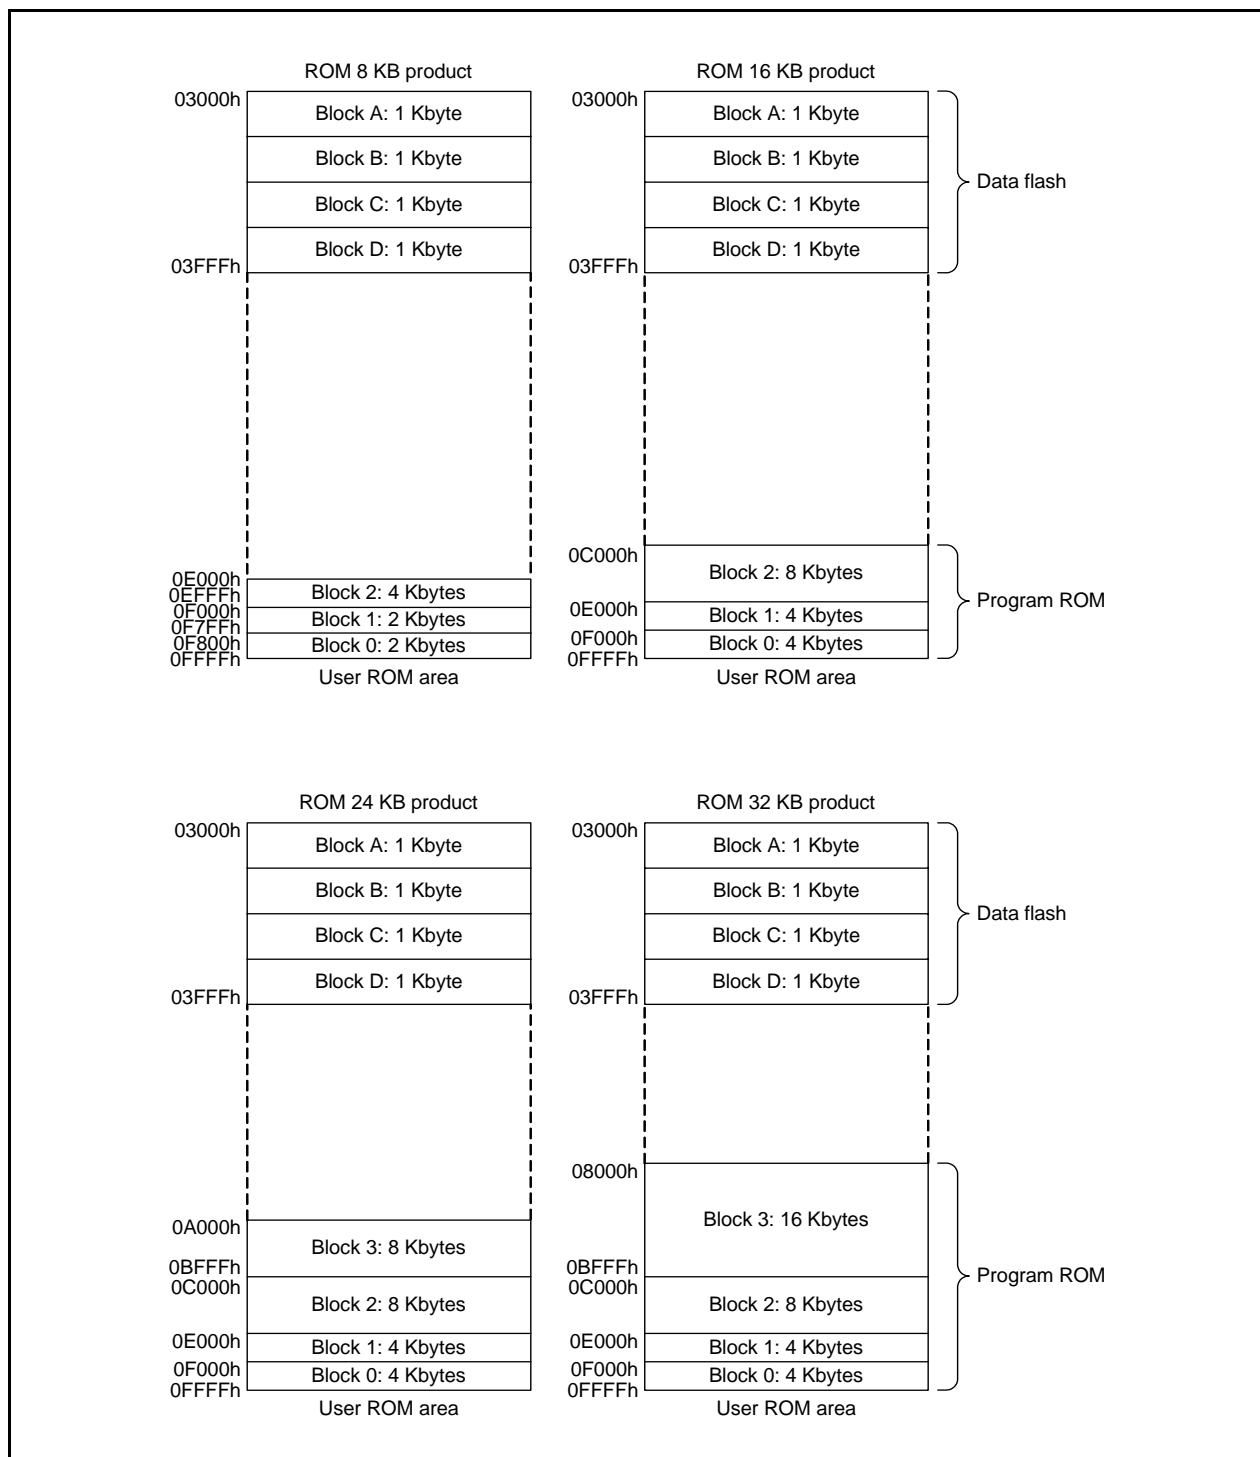

Figure 32.1 R8C/3JA Group Flash Memory Block Diagram
3. The number of blocks and block division vary with the MCU. Refer to **Figure 32.1 R8C/3JA Group Flash Memory Block Diagram** for details.
Figure 32.1 shows the R8C/3JA Group Flash Memory Block Diagram.